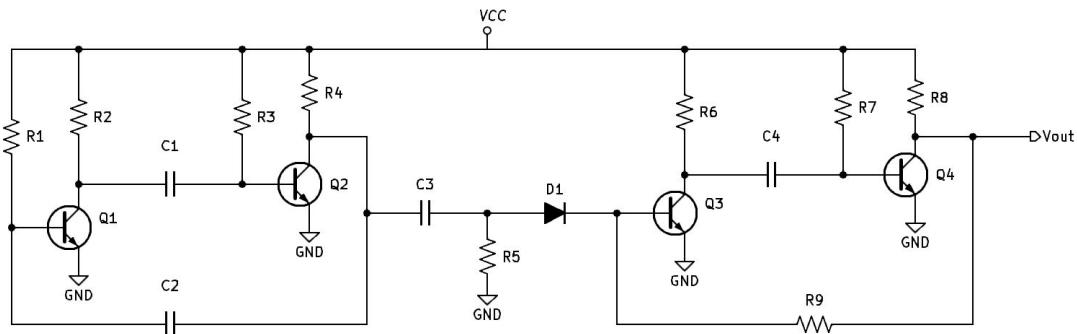

Figure 11.8: Astable Multivibrator Extreme Duty Cycle Circuit Variant
- To produce an extreme duty cycle waveform, an a standard Astable circuit can be used to drive/trigger a standard Monostable circuit as seen in Figure 11.8.